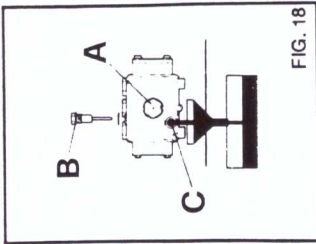

FIG. 18
From time to time check oil level in the high pressure pump either by means of the sight glass (fig. 18 A) or the dipstick (fig. 18 B). Change oil after the first 50 hours of work and subsequently every 500 hours. Proceed as follows:
- 1) Unscrew the drain cap under the pump (fig. 18 C).